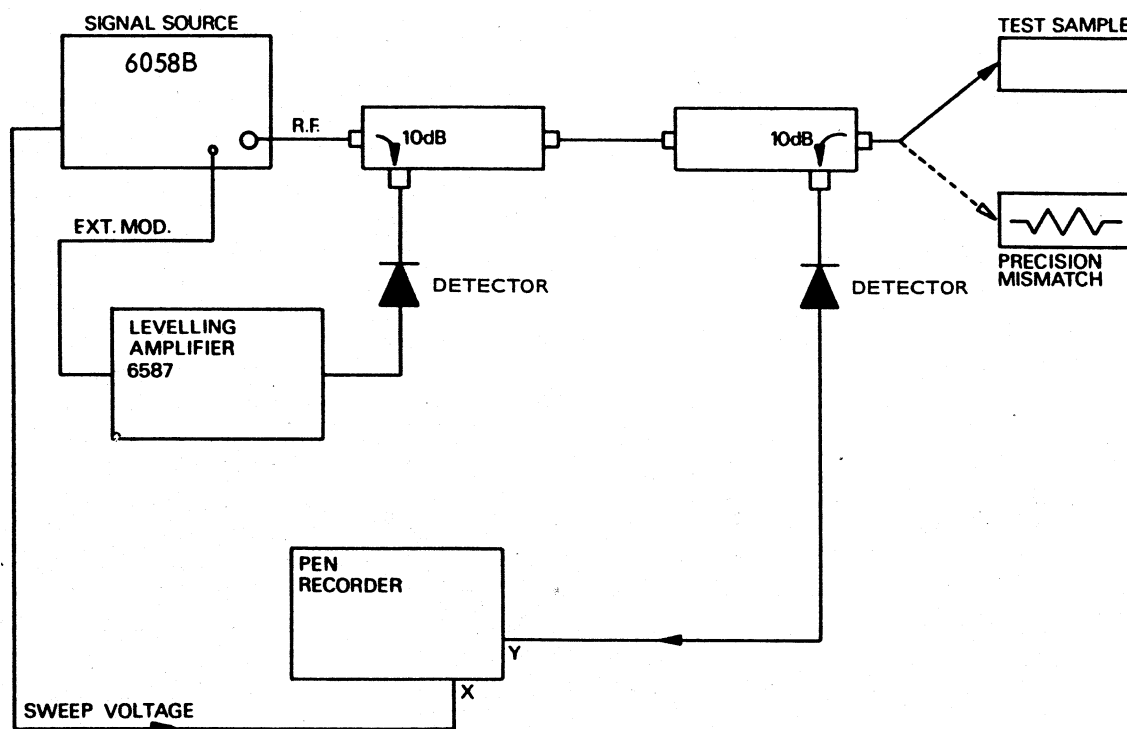

Fig. A1 V.S.W.R. Measurements
The Signal Source 6058 B, can be used in conjunction with an X-Y recorder to provide a permanent record of broadband measurements. When used in this mode the source is operated in a similar way to the Microwave Sweeper Type 6600A with the rear panel BNC socket providing the sweep voltage. Reflectometer and insertion loss measurements can be made in the usual way see Figs.A1 and B1. The output voltage is zero at 8 GHz and approximately 10V at
A. Manual Sweep Frequency Measurements of V.S.W.R. Using the equipment as shown in Fig.A1 a permanent record of test results can be obtained over the complete frequency range of the